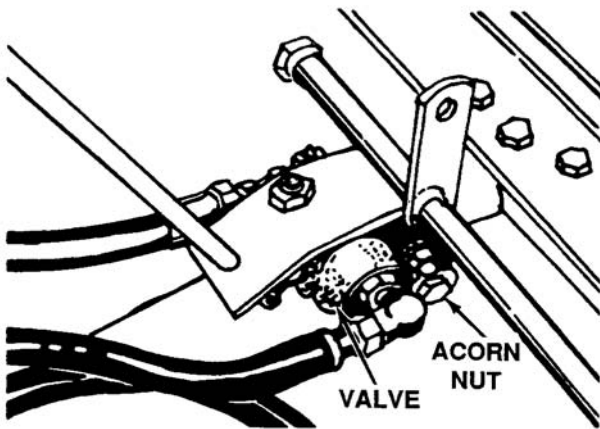

Figure 7-4. Location of Hydraulic Lift Valve
1. The valve is located under the left side of the tractor frame under the hydraulic lift lever. See Figure 7-4.